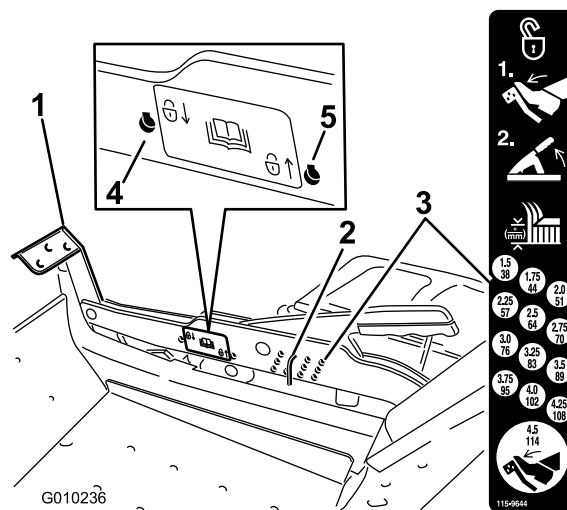

Figure 28
1. Push on the deck lift pedal with your foot and raise the mower deck to the transport position (also the 4-1/2 inch (114 mm) cutting height position) (Figure 28).
2. To adjust, remove the pin from the height-of-cut bracket (Figure 28).
3. Select a hole in the height-of-cut system corresponding to the height-of-cut desired and, insert the pin (Figure 28).
1. Push on the deck lift pedal with your foot, and raise the mower deck to the transport position (also the 4.5 inch (114 mm) cutting height position) (Figure 28).
2. Remove the pin from the height-of-cut bracket (Figure 28).
3. Select the lower hole on the lock decal and insert the pin (Figure 28).
4. Select the upper hole on the lock decal and insert the pin (Figure 28).